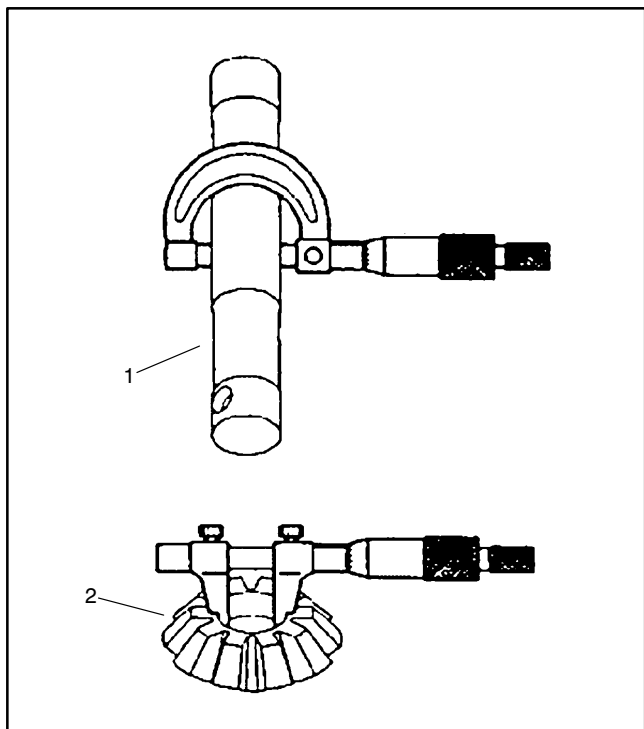

Figure 24
2. Measure the differential pinion shaft O.D. and the pinion gear I.D. to determine the pinion shaft to pinion gear clearance (Fig. 24). Replace components as necessary.